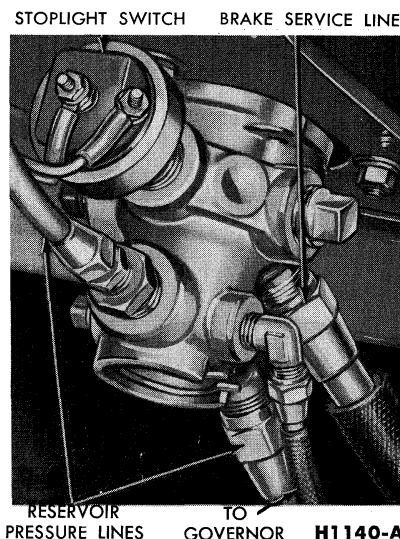

FIG. 17—Typical Foot Control Valve Installation
The brake valve has two tiers of four ports each (Figs. 17 and 19). The lower tier of ports connects to the reservoir pressure lines; the upper tier connects to the lines carrying brake service pressure. Of the four lower ports, one receives reservoir pressure; one sends reservoir pressure to the governor; and the other two (depending upon the model) either send reservoir pressure to some other part of the system, or they are plugged. On tractors, for example, the trailer emergency line connects to one of these ports in order to carry tractor reservoir pressure to the trailer reservoir.
2. Disconnect all but one line from the valve ports (Fig. 17). Loosen, but do not disconnect, the remaining line. This line will prevent the valve from falling when the retaining bolts are removed.
(two nuts and flat washers), and connect the battery cable (Fig. 17).